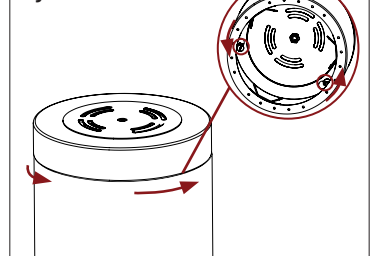

Figure 7
7. Connect ideal connector from LED driver to PRISM reflector. (Figure 7)